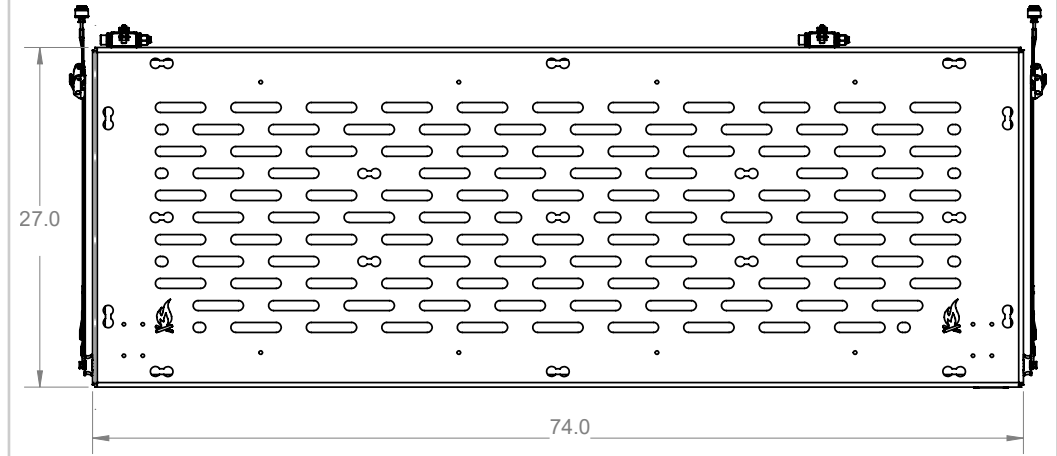

FIG 1
1.1 Dimensions of Solo Bed: The Hanging Solo Bed is designed for installation in vans equipped with L-Track and FVC Bed Brackets. Refer to FIG 1 and 2 for relevant dimensions to assist with the layout and installation of your new Solo Bed.